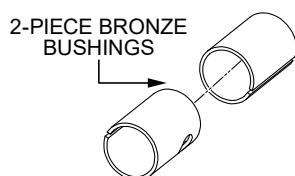

Figure 49. Bronze Bushings
- Examine the **bronze trowel arm bushings** (Figure 49), and clean them if necessary. Replace the bushings if they are worn or out of round.